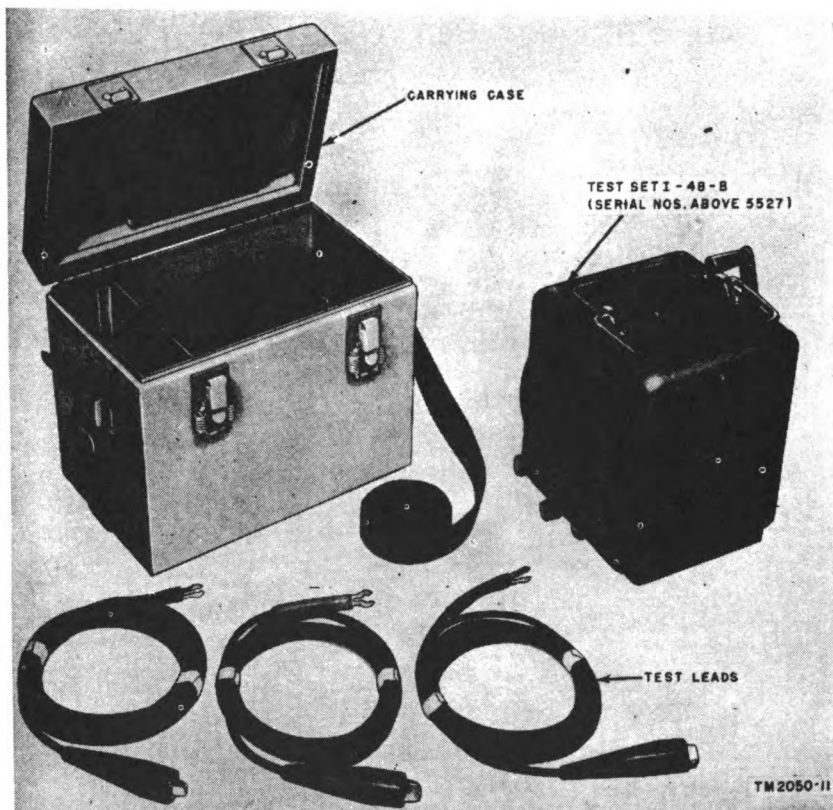

Figure 3. Test set I-48-B (serial numbers 5527 and higher), carrying case, and test leads.
b. *Test Set I-48-B (Serial Numbers 5527 and Higher) and Ohmmeter ZM-21A/U.* The following table gives the unpacked weights and dimensions of Test Set I-48-B (serial numbers 5527 and higher) (fig. 3) and Ohmmeter ZM-21A/U and of the accessories furnished with this equipment:
- (2) Test Sets I-48-B with serial numbers lower than 5527 (and approximately 340 units with serial numbers between 5527 and 6996) are supplied with plywood carrying cases in an olive-drab finish (fig. 2). Later models of Test Set I-48-B are supplied with waterproof aluminum carrying cases in a smooth gray enamel finish (fig. 3). Each case has a separate compartment for storing the test leads. The main compartment is lined with sponge rubber.
- (3) The Test Sets I-48-B in the plywood carrying cases ((2) above) are provided with two flexible, insulated test leads. One test lead is equipped with a red battery clip cover on one end and red insulating sleeving above the spade-type terminal on the other end; the other test lead is equipped with a black battery clip cover and black insulating sleeving. Later models of Test Set I-48-B are supplied with three test leads one with a red battery clip cover and red insulating sleeving, and two with black battery clip covers and black insulating sleeving.
Test Set I-48-B and Ohmmeter ZM-21A/U are portable, self-contained instruments designed to be used near the equipment, the wire, or the cable line to be tested. Place the equipment on a firm, level surface with the indicator scale plate in a horizontal plane. Do not place it in a strong, external magnetic field similar to that produced by some types of electrical equipment. Before operating the ohmmeter, ground it through the equipment under test by connecting the GROUND terminal on the side of the case to the equipment in accordance with instructions for the type of equipment under test. When the ohmmeter is removed from the carrying case, the hand generator crank is folded against the side of the case with the handle extending over the top of the case (fig. 3): Unfold the crank to bring it into its operating position.